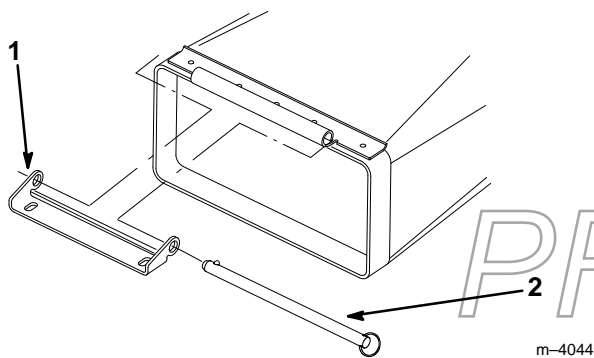

Figure 10
4. Attach the wide hinge bracket to the chute with the locking pin (Fig. 10).